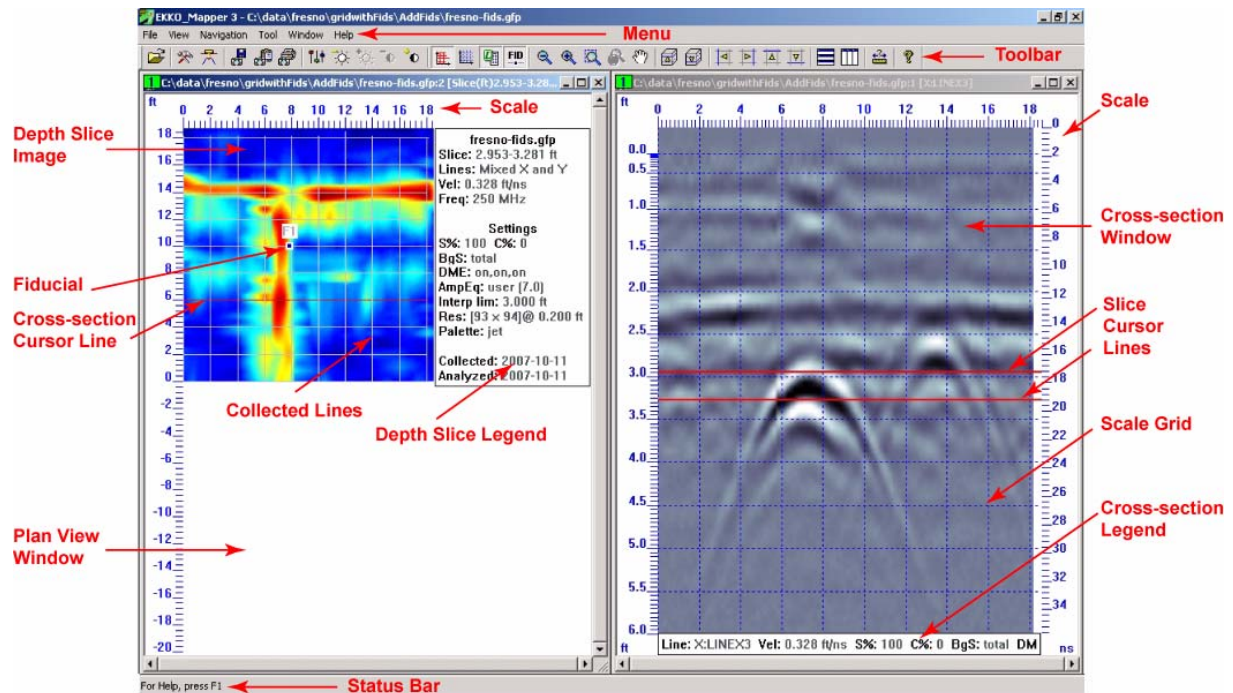

Figure 2-2: The EKKO_Mapper main screen.
The depth range of the current slice displayed is indicated by the **Slice Cursor Lines** (**Figure 2-2**) on the cross-section. Each slice image represents the average signal amplitude of a finite **Thickness** of the subsurface.
Moving up and down through the slice image causes the **Slice Cursor Lines** (**Figure 2-2**) on the cross-section image to move up or down as well, indicating the depth range used to generate the current slice image in the plan view window.
If **Show Collected Lines** is enabled, a colored line, called the **Cross-Section Cursor Line** (Figure 2-2), will appear in the plan view window. This line shows the position, on the data collection grid, of the cross-section currently displayed in the **Cross-Section Window**.
The cross-section window displays the current cross-section image (Figure 2-2).
- 4) clicking on a collected line in the plan view window. The **Cross-Section Cursor Line** (Figure 2-2) will immediately change to that line and the corresponding cross-section will be displayed.
There are two **Slice Cursor Lines** (Figure 2-2) superimposed on the cross-section image. These lines represent the depth range that is being displayed in the current slice image in the Plan View window. This is particularly useful for understanding how features that appear in the cross-sections correspond to the slice images.
The Plan View Window and the Cross-Section have a legend that displays information about the plan view or the cross-section (**Figure 2-2**) images.